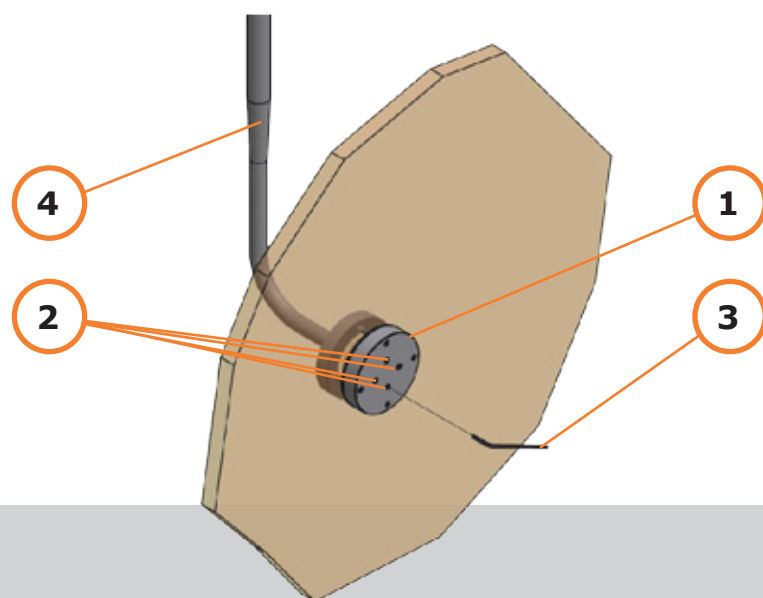

Fig. 10
- 5.0.1 Move the shield, around this ball joint to validate its movability. The shield should remain in each position without further movement. If the shield moves out of position in relation to its center mount (1/Fig. 10), adjust the tilt tension of the center mount by tightening the 4 inside screws (2/Fig. 10) with the 2 mm Allen wrench (3/Fig. 10).
NOTE: A 2 mm Allen Key (3/Fig. 10) comes delivered with the shield.
1. When loosening the 4 inside screws (2/Fig. 10), make sure to secure the shield against tilting. Otherwise, the shield could move unexpectedly and become damaged from coming in contact with other objects.
3. Never loosen the screws of the shield on the side of the connection element (4/Fig. 10), otherwise the center shield joint may become instable.